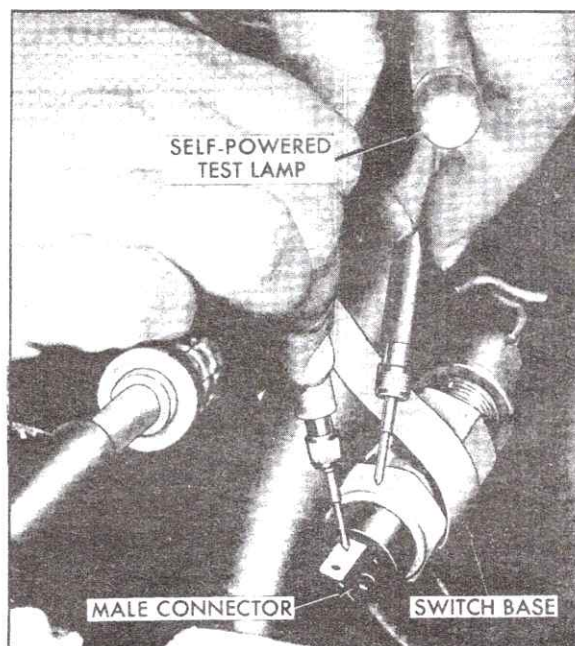

Fig. 15-46 Testing Thermal Switch
2. Disconnect light blue wire at thermal switch (if not previously disconnected). Touch one lead of a self-powered test lamp to male connector and the other to base of switch, Fig. 15-46. Lamp should not light. If it does, replace switch.